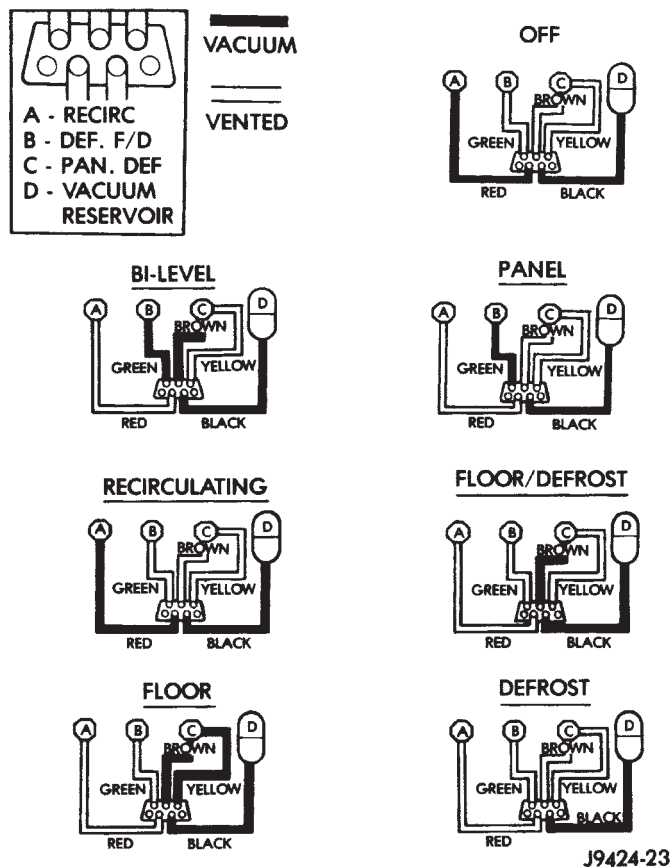

Fig. 12 Vacuum Circuits
(3) Determine the vacuum line color of the vacuum circuit that is leaking. To determine the vacuum line colors, refer to the Vacuum Circuits chart (Fig. 12).
(4) Disconnect and plug the vacuum line from the component (fitting, actuator, valve, switch, or reservoir) on the other end of the leaking circuit. Instrument panel disassembly or removal may be necessary to gain access to some components.
(5) Connect the test set hose or probe to the open end of the leaking circuit. The test set gauge should return to the 27 kPa (8 in. Hg.) setting shortly after each connection is made. If OK, replace the faulty disconnected component. If not OK, go to Step 6.
(6) To locate a leak in a vacuum line, leave one end of the line plugged and connect the test set hose or probe to the other end. Run your fingers slowly along the line while watching the test set gauge. The vacuum reading will fluctuate when your fingers contact the source of the leak. To repair the vacuum line, cut out the leaking section of the line. Then, insert the loose ends of the line into a suitable length of 3 mm (1/8-inch) inside diameter rubber hose.